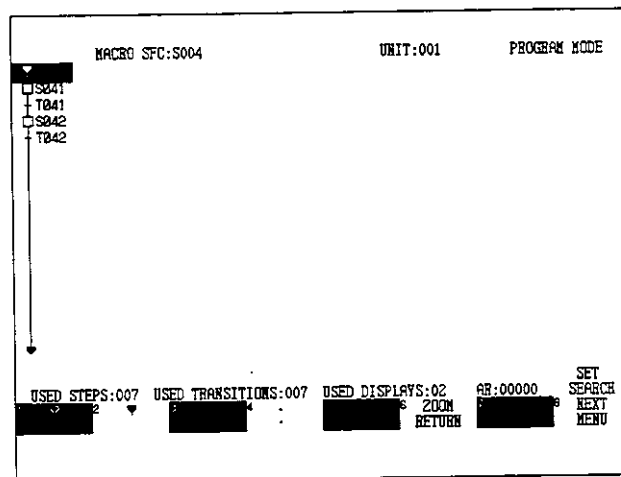

Figure 7.65
- (1) Position the cursor in the SFC area.
- (2) A macro step  is essential for the main screen as well as the expanded-screen.
- (3) If there is no expanded-screen, a new expanded-screen will be displayed, and the SFC storage operation can be performed.
- (4) The Zoom Up operation can be used if the macro step is used in *Figure 7.65*.